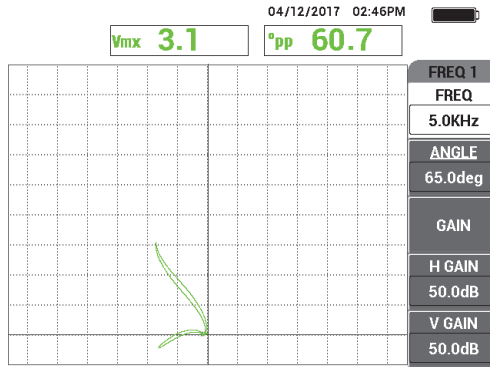

Figure 5-184 The scan of the two grooves
3. Slowly scan the tube until the 10 % ID and 20 % OD flaws are displayed. When the groove signals are visible on the NORTEC 600 screen, press the FREEZE key (❄) [see Figure 5-184 on page 259].